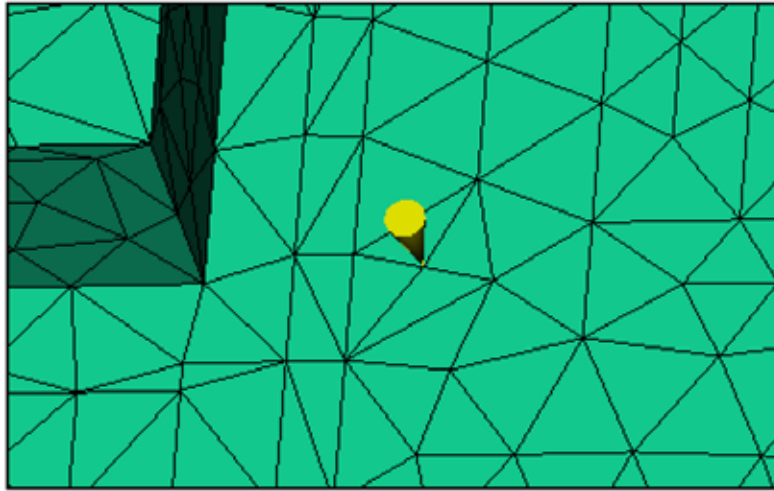

Figure 166: Injection location for the hot_drop
2. Set the injection location at the new node location shown in Figure 166.